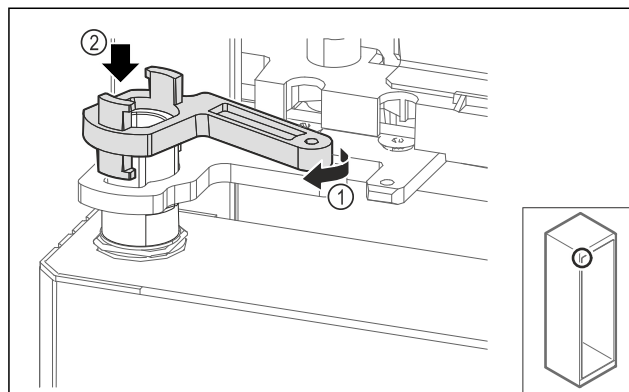

Fig. 66
- Turn the swap bearing block lock slightly and Fig. 66 (1) place it on the sleeve Fig. 66 (2).